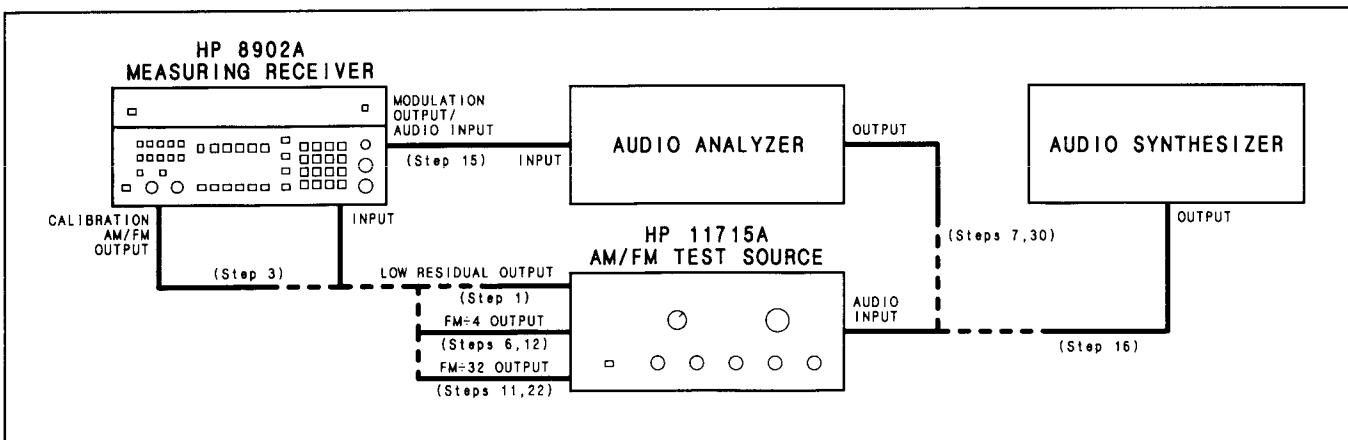

Figure 4-2. FM Performance Test Setup
1. On the AM/FM test source, set the test mode to residual FM. Connect its low-residual (560 MHz) output to the Measuring Receiver's INPUT. (See Figure 4-2.)
3. Connect the Measuring Receiver's CALIBRATE AM/FM OUTPUT to the INPUT. (See Figure 4-2.)
6. On the AM/FM test source, set the test mode to FM. Connect its FM \div 4 output to the Measuring Receiver's INPUT. (See Figure 4-2.)
7. Set the audio analyzer's oscillator to 10 kHz at 1V. Connect its output to the audio input of the AM/FM test source. (See Figure 4-2.)
11. Connect the FM \div 32 output of the AM/FM test source to the Measuring Receiver's INPUT without disturbing the AM/FM test source's controls. (See Figure 4-2.) Multiply the displayed ratio on the Measuring Receiver by the calibration factor of step 4. (For example, if the display reads 12.52% REL and the calibration factor of step 4 is 100.4%, the result is $12.52 \times 100.4 = 12.57\%$ REL.) The result should be between 12.35 and 12.65% REL.
12. Connect the FM \div 4 output of the AM/FM test source to the Measuring Receiver's INPUT. (See Figure 4-2.)
15. Connect the audio analyzer's input to the Measuring Receiver's MODULATION OUTPUT/AUDIO INPUT. (See Figure 4-2.) Set the audio analyzer to measure the distortion on the 100 kHz signal at the MODULATION OUTPUT/AUDIO INPUT (all audio analyzer filters should be off). The distortion should be 0.1% or less (-60 dB or less).
16. Set the audio synthesizer to 10 kHz at +5 dBm. Connect its output to the audio input of the AM/FM test source. (See Figure 4-2.) Fine adjust the level for a Measuring Receiver display of 100 kHz times the calibration factor of step 5. (For example, if the calibration factor of step 5 is 100.4%, set the level for a display of 100.4 kHz.)
22. Connect the FM÷32 output of the AM/FM test source to the Measuring Receiver's INPUT. (See Figure 4-2.)
30. Set the audio analyzer's oscillator to 10 kHz at 4V. Connect its output to the audio input of the AM/FM test source. (See Figure 4-2.) Fine adjust the oscillator level for a Measuring Receiver display of 10 kHz peak deviation.